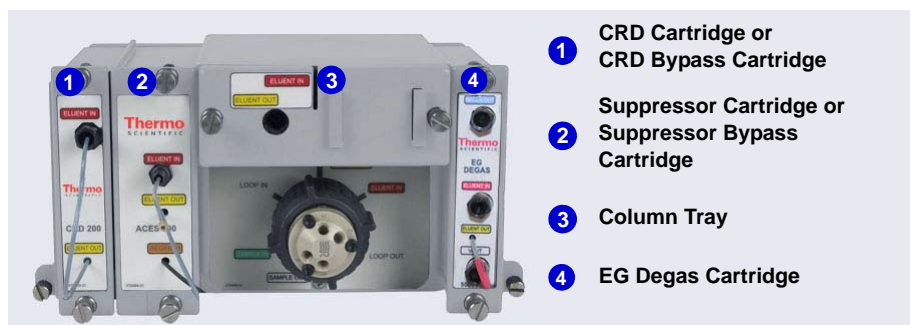

Figure 3-6. Example Dionex IC Cube with Cartridges and Column Tray Installed
The Dionex IC Cube houses three removable component cartridges and one column tray for running capillary IC applications. Figure 3-6 shows an IC Cube after these items have been installed.
- a. Remove the cap from the regenerant port on the rear of the cartridge. Slide the cartridge into the right-most slot of the Dionex IC Cube (see Figure 3-6). Push the cartridge firmly into the slot and tighten the thumbscrews fingertight only.
- b. Remove the caps from the regenerant ports on the rear of the CRD or CES cartridge. Slide the cartridge into its slot in the Dionex IC Cube (see Figure 3-6). Push the cartridge firmly into the slot and tighten the thumbscrews fingertight.